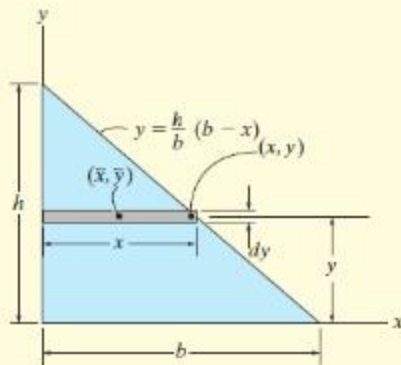

Fig. 9-10
Determine the distance  $\bar{y}$  measured from the  $x$  axis to the centroid of the area of the triangle shown in Fig. 9-10.
**Differential Element.** Consider a rectangular element having a thickness  $dy$ , and located in an arbitrary position so that it intersects the boundary at  $(x, y)$ , Fig. 9-10.